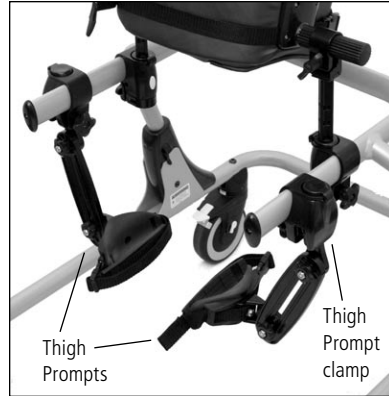

Figure 22
Thigh Prompts work best if installed behind the Chest Prompt on top bar as shown in Figure 22. Thigh Prompt clamps are slightly different from the clamps of other accessories, but attach to the top bar in the same manner.
- See Figures 22 and 23